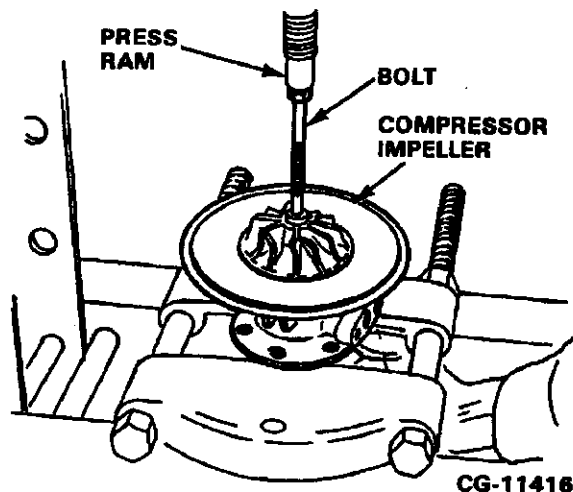

Figure 2.27. Separating Compressor Impeller from Turbine Shaft
8. Support the center housing assembly on an arbor press as shown in Figure 2.27. Grind a radius on the end of a 1/4 inch bolt to fit the end of the shaft. Press the shaft from the compressor wheel.